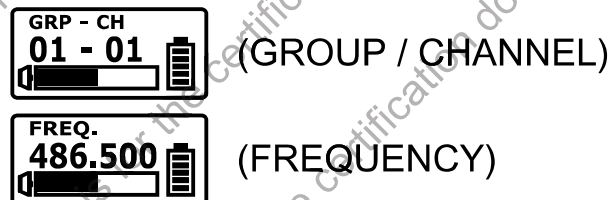

Fig. 11
(A) Group (GRP) / Channel (CH) / Frequency (FREQ.). Fig. 11
- (1) Group / Channel / Frequency is synced from the receiver and cannot be changed.
- (2) To change Group / Channel / Frequency, do it at the receiver and then press ACT button to sync.